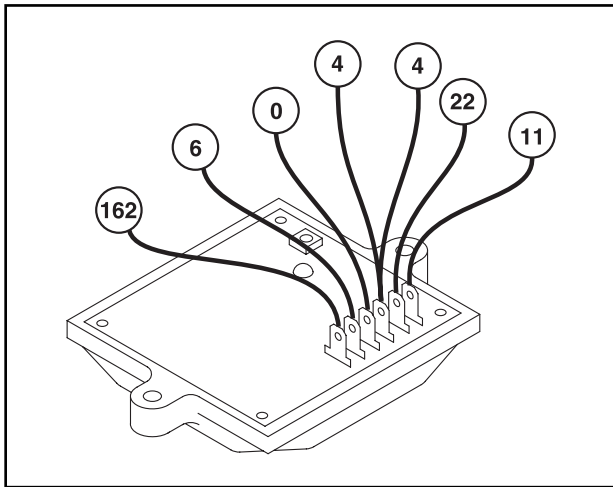

Figure 3. Voltage Regulator
1. Disconnect Wire 4 from the voltage regulator, 3rd terminal from the top. See Figure 3.
7. Disconnect Wire 11 from the voltage regulator and connect one meter test lead to that wire. Disconnect Wire 22 from the voltage regulator and connect the other meter test lead to that wire (both wires are located at the top two terminals of the voltage regulator, see Figure 3).
1. Locate Wire 4 that is routed from the circuit board and connects to the voltage regulator terminal, third from the top (see Figure 3). Disconnect that wire from the voltage regulator terminal.